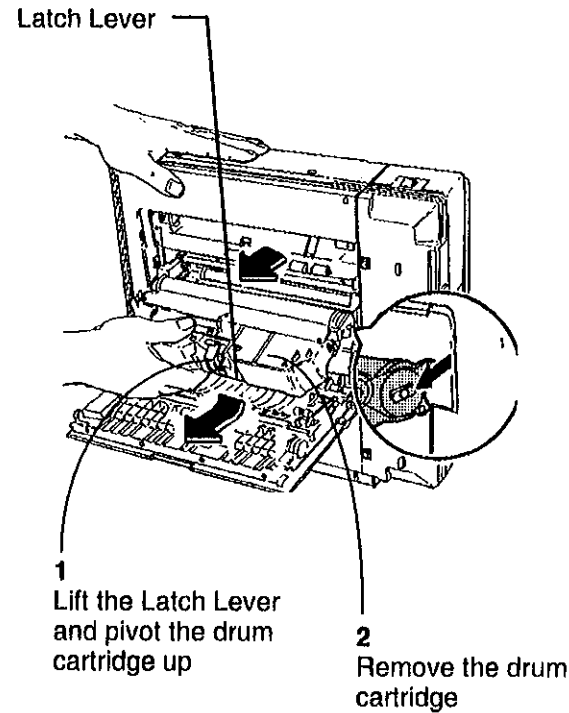

Figure 2. Removing the Drum Cartridge
3. (Figure 2) Lift the latch lever to release the Drum Cartridge, and remove the Drum Cartridge from the copier